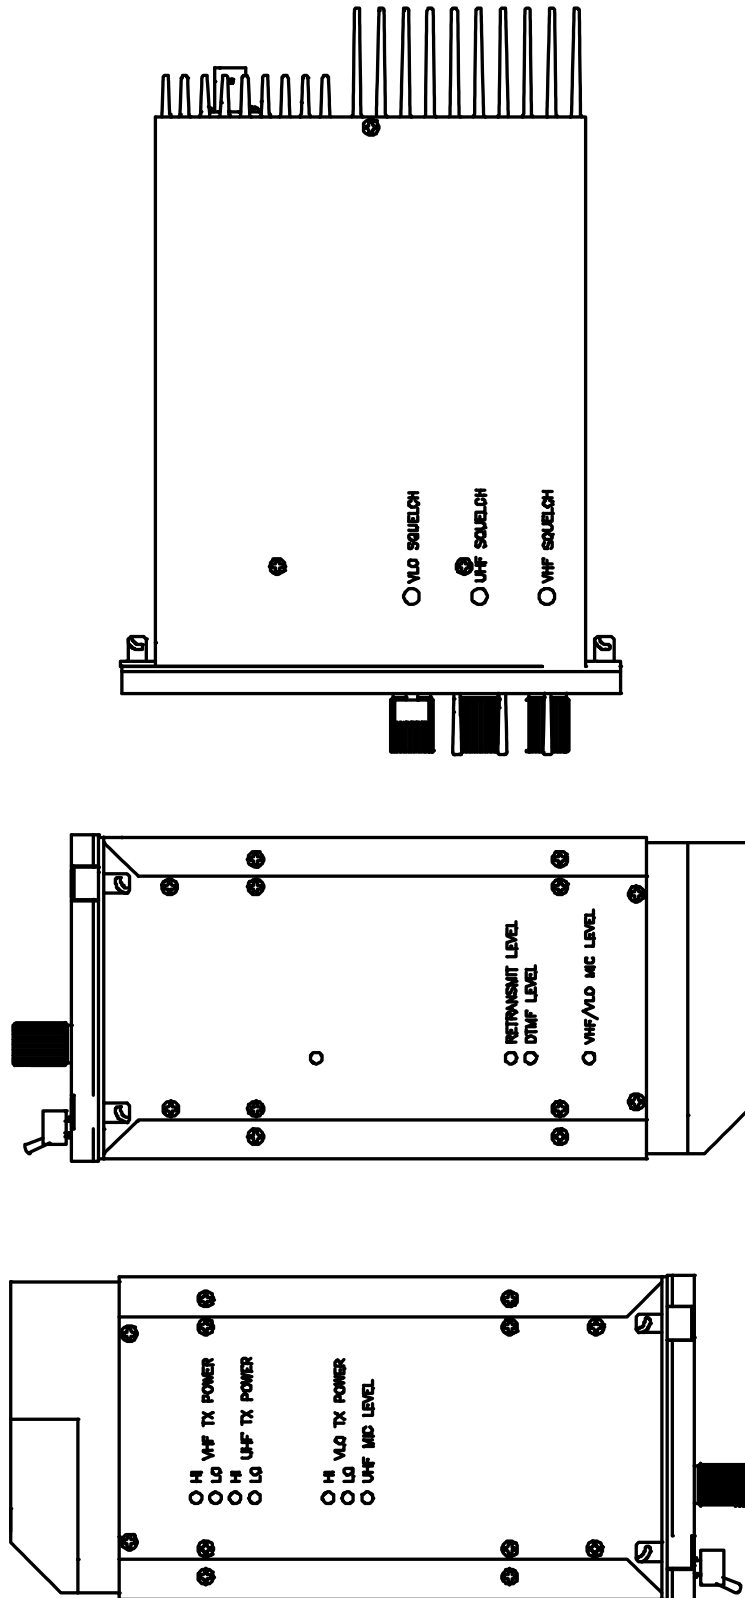

FIGURE 3.4 External Adjustment Access Holes
3. Adjust the microphone level potentiometer (Mic Level 1) through the access hole located on the right side of the chassis (see Figure 3.4) to produce a 2.7 kHz deviation.
3. If not, re-adjust receiver squelch potentiometer through the access hole located on the bottom of the transceiver chassis (see Figure 3.4).